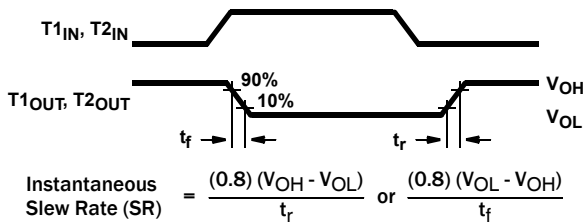

FIGURE 7. SLEW RATE DEFINITION
6. See Figure 7 for definition.